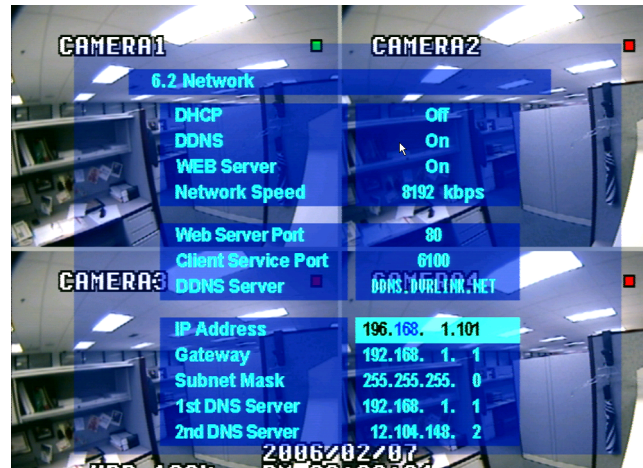

Figure 13. Additional Network Settings
7. Configure any additional settings that are required for your network. Whether the following settings will be available depends on which network options you selected (refer to Figure 13):